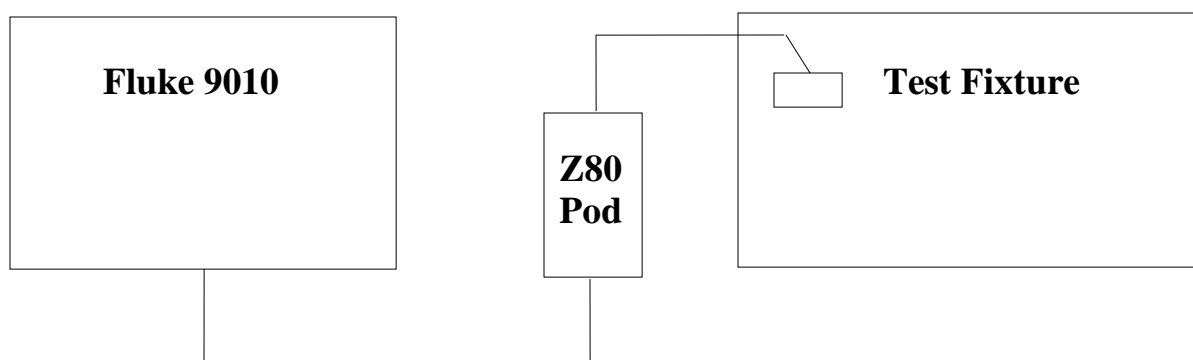

Figure 1
- Connect the required equipment as outlined in Figure 1.